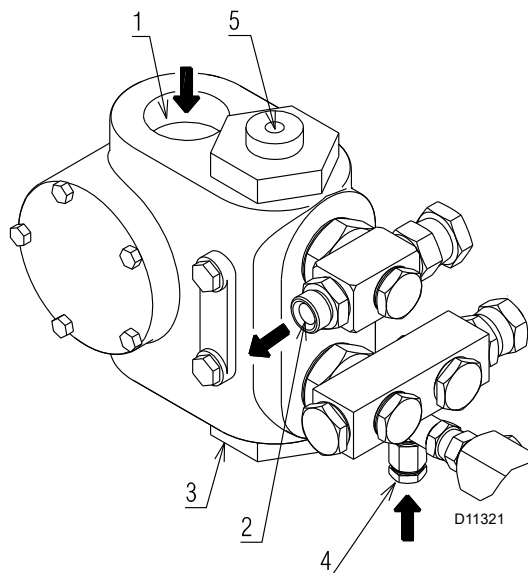

Fig. 21
Key (Fig. 21)
- In order for the pump (Fig. 21) to be able to self-prime, the screw 4) must be loosened to purge the air in the suction line.
If the pump has been drained, fill it with fuel through the opening on the vacuumer 4)(Fig. 21) prior to starting; otherwise, the pump will seize.